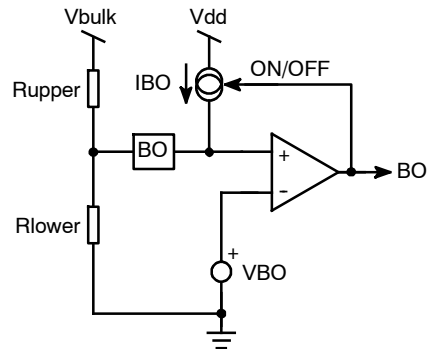

Figure 44. The Internal Brown-out Configuration with an Offset Current Source
The Brown-Out circuitry (BO) offers a way to protect the resonant converter from low DC input voltages. Below a given level, the controller blocks the output pulses, above it, it authorizes them. The internal circuitry, depicted by Figure 44, offers a way to observe the high-voltage (HV) rail. A resistive divider made of Rupper and Rlower, brings a portion of the HV rail on pin 5. Below the turn-on level, the 26.5 μA current source IBO is off. Therefore, the turn-on level solely depends on the division ratio brought by the resistive divider.